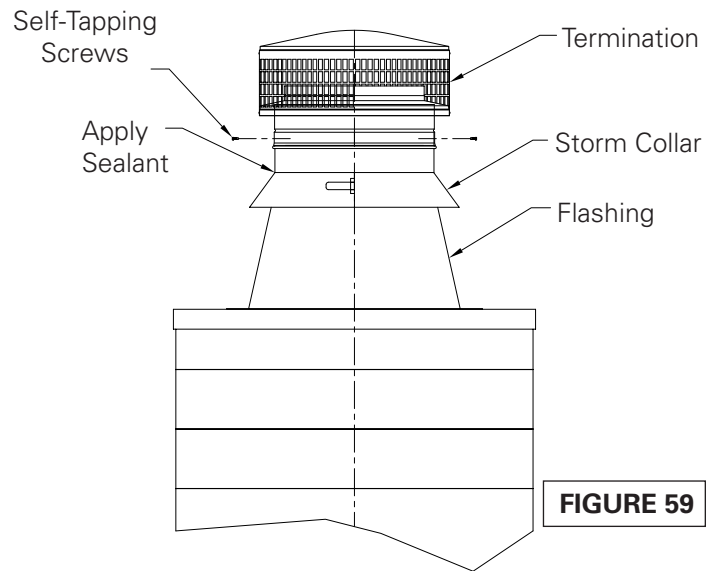

FIGURE 59
9. Attach the storm collar around the chimney above the screen of the flashing. Secure in place with the locking tab and button. Seal around the storm collar with a non-hardening waterproof sealant. Attach the Termination Cap to the chimney by sliding the male to female joint connection together and secure in place with four (4) sheet metal screws provided. **(Figure 59)**